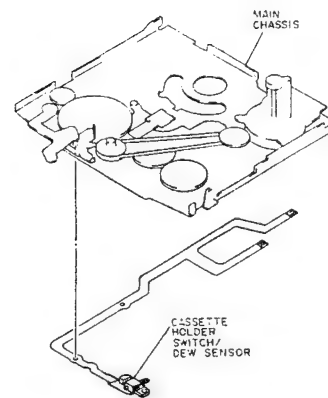

Fig. 2-74
- 2) Peel out the cassette holder switch/dew sensor from the main chassis. (See Fig. 2-74)